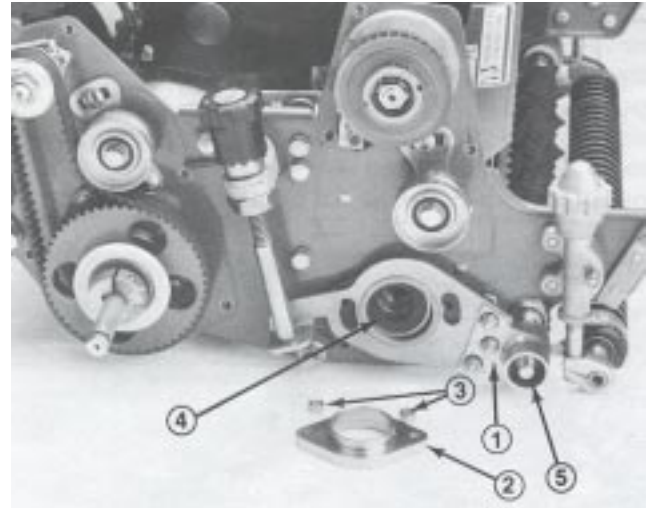

Figure 7
- A. Slide the groomer plate assembly over the end of the groomer shaft (Fig. 7).
- B. Insert a adapter ring into reel bearing housing. Insert the two 3/8-16 x 2" lg. flat head screws through the groomer arm cover and bearing adapter. Put a spacer over each screw before positioning the adapter into the reel bearing housing. Slide the adapter through the bronze bearing in the groomer plate assembly and into the reel bearing housing. Install locknuts on flat head screws and torque to 23 to 27 ft-lb (Fig. 7).
- C. Secure right end of groomer shaft to groomer plate assembly with a 1/2-20 locknut (Left handthread) Torque to 29 to 35 ft-lb (Fig. 7).
16. Mount groomer adjustment knob assembly to right side plate with a 3/8-16 x 5/8" lg. capscrew and Belleville washer. Reinstall left bedbar adjuster frame to side plate with capscrews and washers previously removed (Fig. 7).